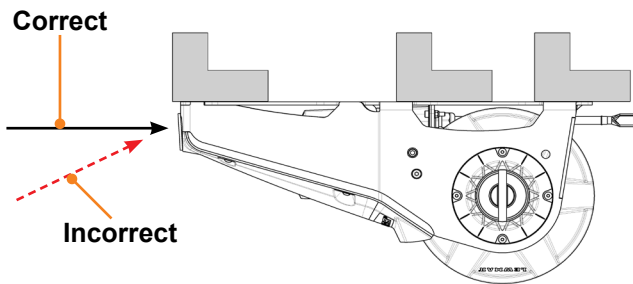

Fig.7
5. The lead from the bow roller should be fed horizontally back to the winch rope feeder, and not at an angle (Fig. 7).